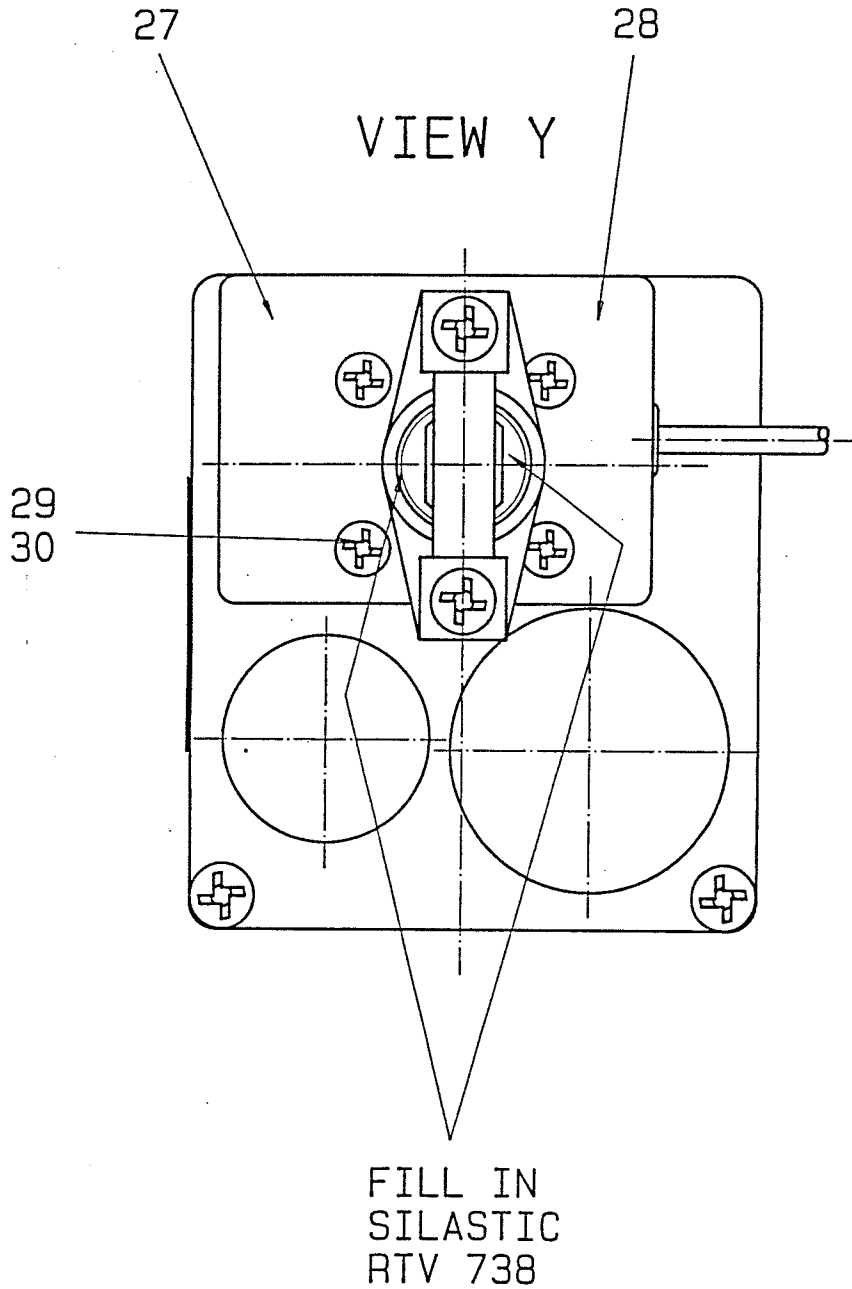

Figure 2
- Remove the four screws position 30, see figure 2.
- Remove carefully the two endcovers position 27 and 28, see figure 2.